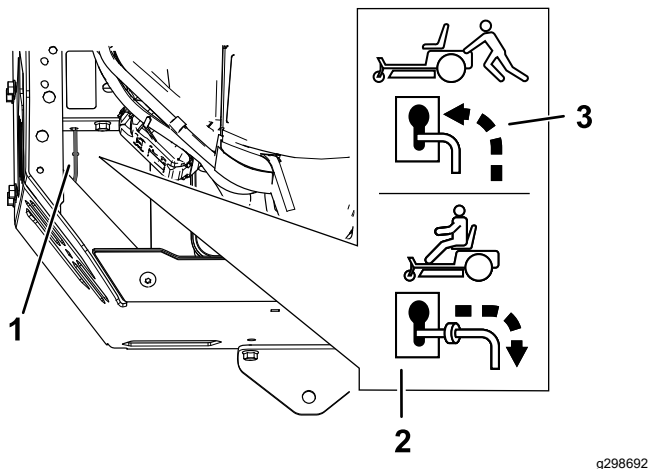

Figure 38
4. Move the bypass levers forward through the slotted hole and down to lock them in place (Figure 38).